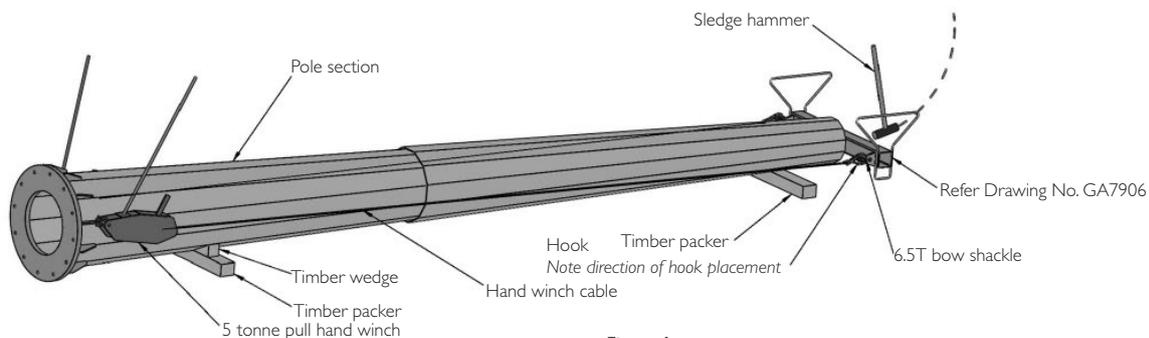

Figure 1.
- 3.6 Make sure that the pole base section is wedged to prevent rotation (refer figure 1).
- 3.15 Under strict supervision, operate the hand winches in unison to ensure that telescoping of the sections proceeds evenly about the column axis. During this operation the cross beam can be hammered on the striking plate (see figure 1), and the external surface of the slip joint can also be hammered via wooden block to assist in achieving a sound joint.